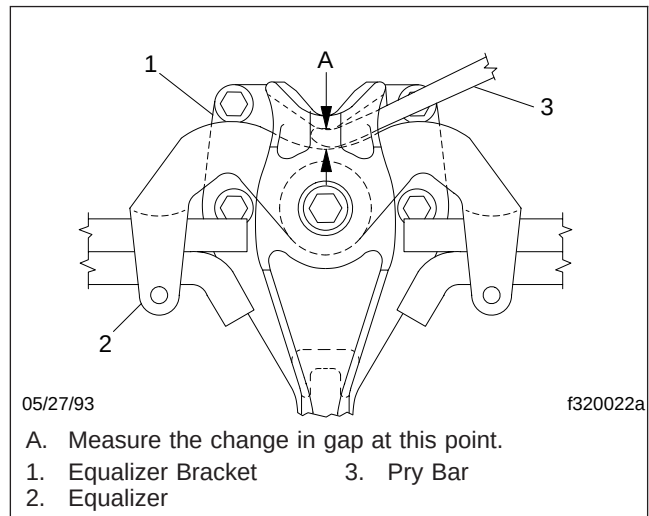

Fig. 3, Side View of the Equalizer
6. Block up the frame enough to take chassis weight off the springs. Attempt to move the equalizer up and down, using a pry bar between the top of the equalizer and top of the equalizer bracket; apply hand pressure only. See **Fig. 3**. If movement at the center of the equalizer exceeds 1/8 inch (3 mm), replace the equalizer bushings. See **Group 32** of the *Century Class Trucks Workshop Manual* for instructions.